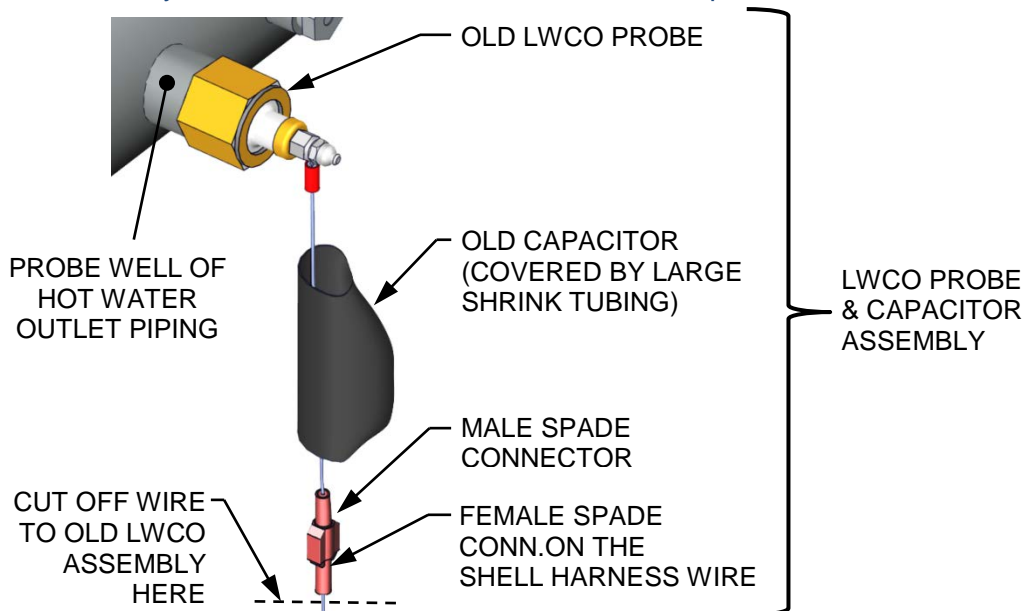

Figure 12: Removing Old LWCO Probe/Capacitor Assembly
1. Cut the shell harness wire just below the female spade connector (Figure 12). The new LWCO assembly includes a new female connector to crimp onto the shell harness wire.